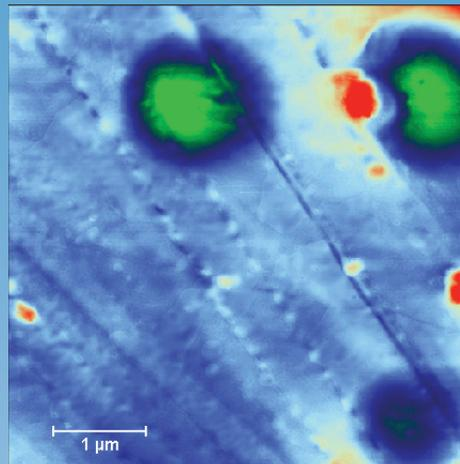
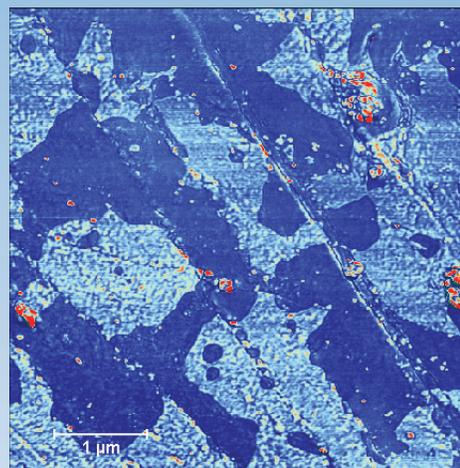

Figure 1: Topographic Image of Coated Tube
Figure 2: Phase Image, same area as Figure 1
Figure 1 shows the surface topography of a 5mm x 5mm area of a polyurethane tube coated with a lubricious hydrogel. The colors indicate the height of the surface — dark blue being low, red being high. The height (Z) range is 100 nanometers. Figure 2 is a phase image of the same area and was acquired simultaneously with Figure 1. Phase images display the phase lag of the oscillating cantilever relative to the driving force as a function of lateral position. The phase lag is sensitive to differences in the material properties within a sample. In this case, the image shows that the coating has areas with different physical characteristics. These different areas are not readily apparent in the height image of the tube.